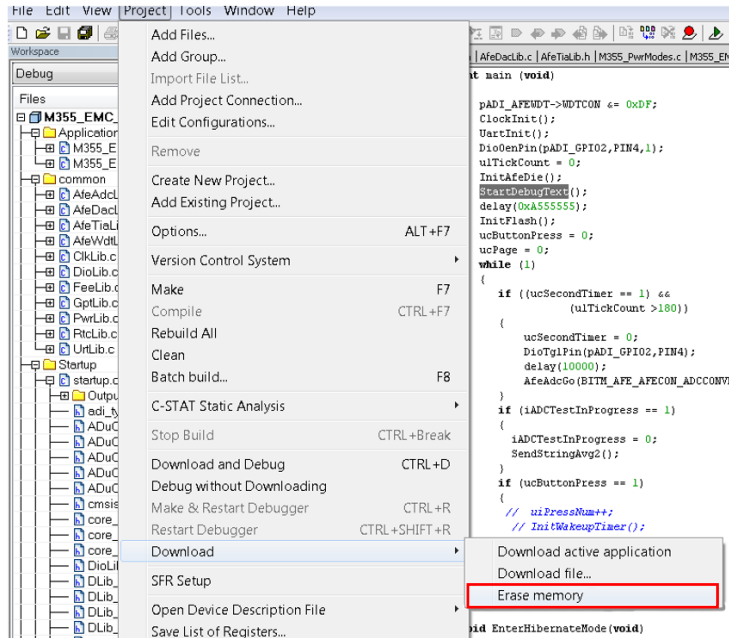

Figure 39. IAR Embedded Workbench Erase Flash Memory Option
3. In the IAR Embedded Workbench, navigate to **Project > Download > Erase memory** (see Figure 39).